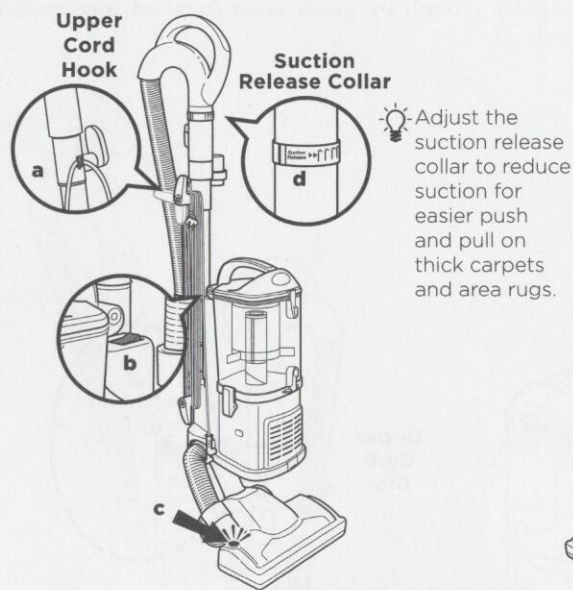

Fig. 11
- 2 Secure the power cord by wrapping it around the cord clips (a). (Fig. 11)
- 3 Press the selector switch (b) to Setting I to vacuum bare floors (straight suction only) or to Setting II to engage the brushroll (for vacuuming carpets and rugs). (Fig. 11)
Brushroll Indicator Light: The brushroll indicator light (c) will illuminate green when the brushroll is on, or red if there is a blockage or jam. (Fig. 11) This feature is designed to protect the brushroll. See Checking for Blockages on page 19.
- 5 Increase or decrease suction power by adjusting the suction release collar (d) on the handle. (Fig. 11) If the vacuum seems difficult to push or pull or if it is lifting up area rugs, reduce suction by rotating the collar counterclockwise. To increase suction and to vacuum floors, rotate the collar clockwise.